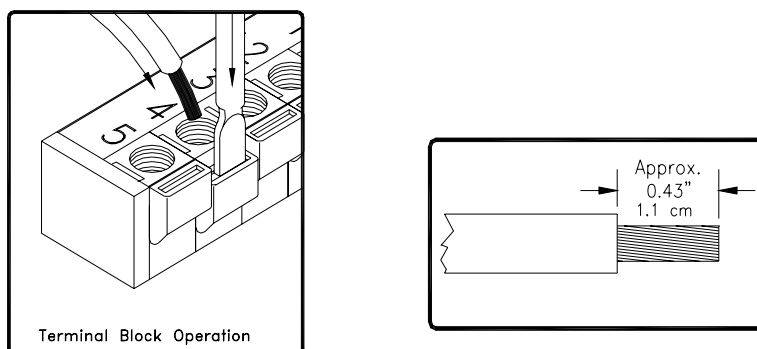
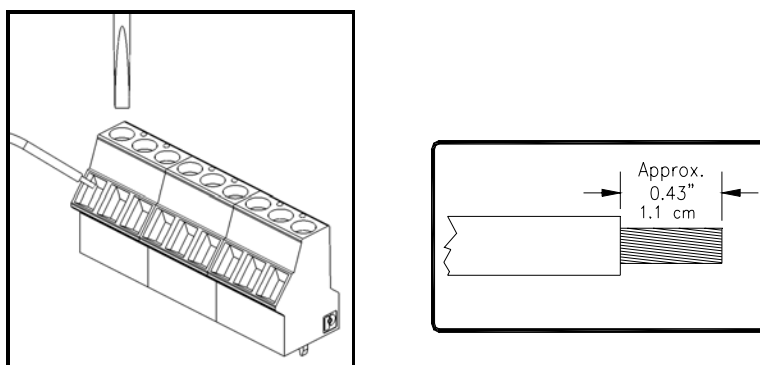

Figure 10: Push Terminal Block Operation
Figure 11: Screw Type Terminal Block Operation
2. For push terminals (Figure 10), insert a screwdriver into the orange tab and press down, opening the terminal. For screw terminals (Figure 11), turn the screw counterclockwise to open.